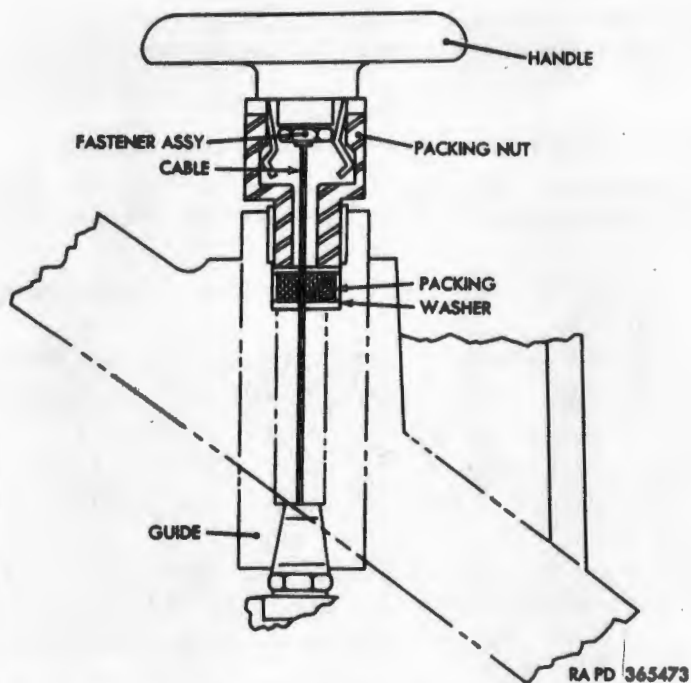

Figure 174. Outside remote control pull cable handle installation—sectional view.
a. Removal. Remove 40-mm ammunition boxes from left stowage compartment. Disconnect remote control assembly from left fire extinguisher cylinder (par. 203a(2)). Pull the handle (figs. 174 and 175) out of its packing nut socket assembly as far as possible. Hold the cable fastener assembly and unscrew the handle from the fastener assembly. Push the insert out of the fastener to free the cable and remove cable from fastener.
- (2) Insert the outside and inside remote control cables through their socket assembly or packing nut (figs. 174 and 175) and secure the conduits with connectors (C). Tighten packing nut (fig. 174) after cable is inserted to insure a watertight seal.
- (3) Install inside and outside pull cable handles (par. 205b).
- (4) Route the inlet pull cable conduit (AA) along hull and bulkhead and secure with two conduit clamps (Z) and two $\frac{1}{4} \times \frac{3}{8}$ hex-head bolts with integral lockwashers.
- (5) Install fixed fire extinguisher remote control assembly (par. 204b).